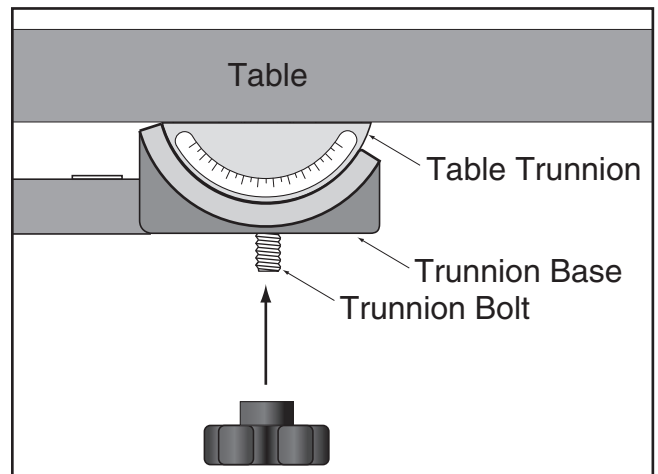

Figure 12. Table installation on trunnion base.
- Thread the two M10-1.5 knobs onto the trunnion bolts hanging through the bottom of the trunnion base, as illustrated in **Figure 12**.